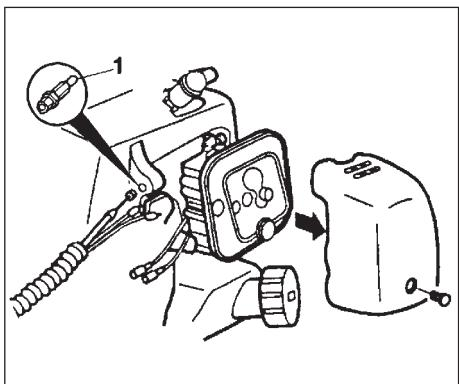

Fig. 1-4
Remove air cleaner cover. (Fig. 1-4)
Set outer-receiver (1) (If so provided) into wire guide and put throttle wire through the outer-receiver. (Fig.1-4)